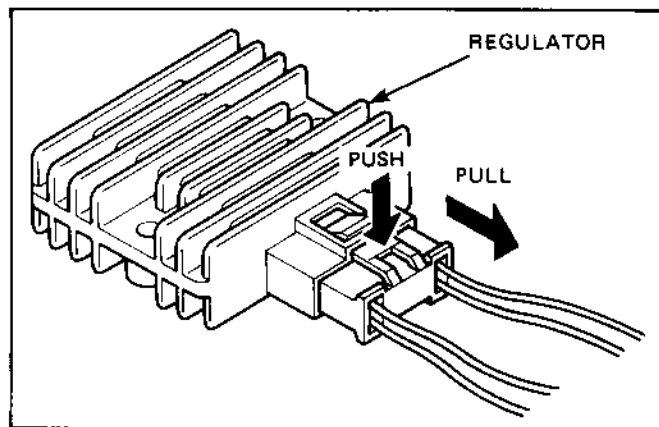

Fig. 10-50
- (2) Disconnect the connectors on the wires to detach the control panel and box.
- (3) Remove the regulator, oil sensor unit, condensers and diode rectifier from the control box. When removing the regulator, push the hook on the coupler and pull out to disengage the couplers. (See Fig. 10-50.)